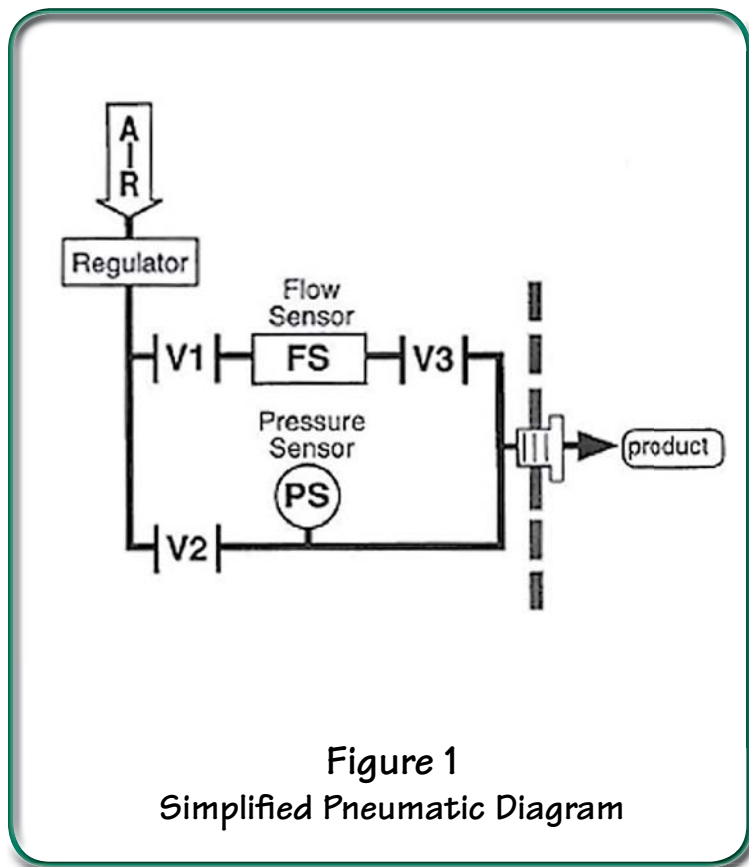

Figure 1
- The product is attached to the test port (Figure 1).